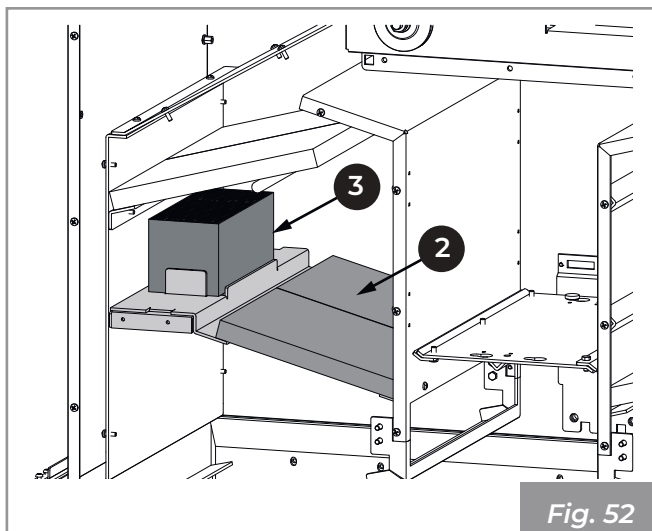

Fig. 52
5) Slide out and extract the panels (2) (Fig. 52).
6) Slide out and extract the O-RING (3).